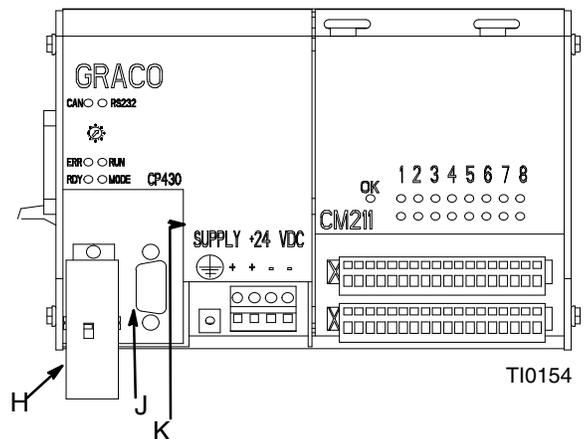

Fig. 13
3. To access the battery door, disconnect the cables from the Controller communications ports, CAN (H) and RS232 (J). See Fig. 13.